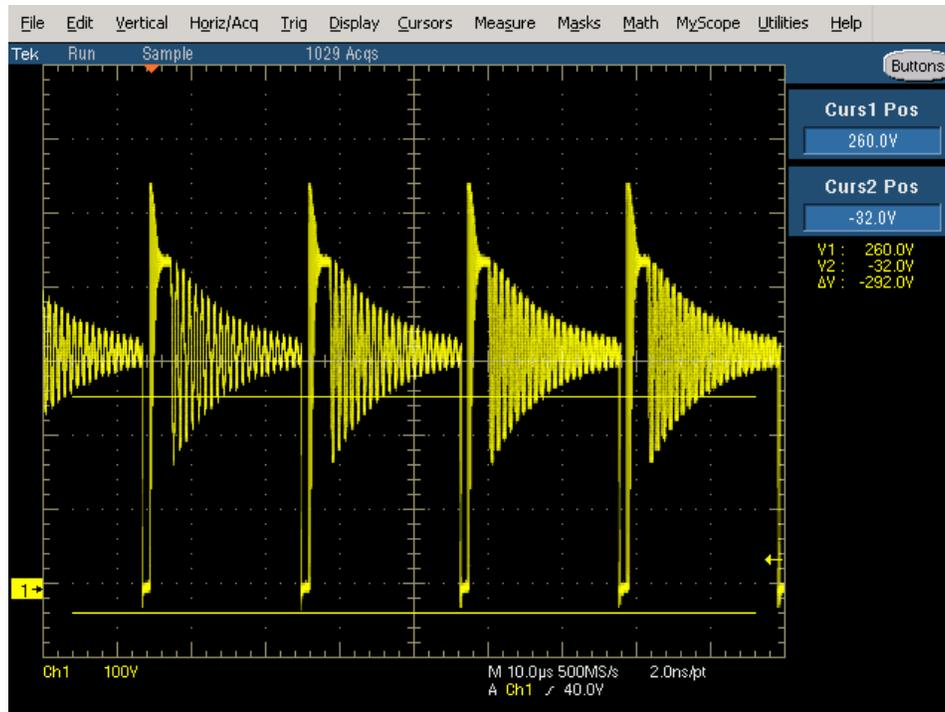

Figure 4 - Clean DCM Operation
26. Turn DC load to 0.3 A, and check to see that the board is operating in DCM (see Figure 4)